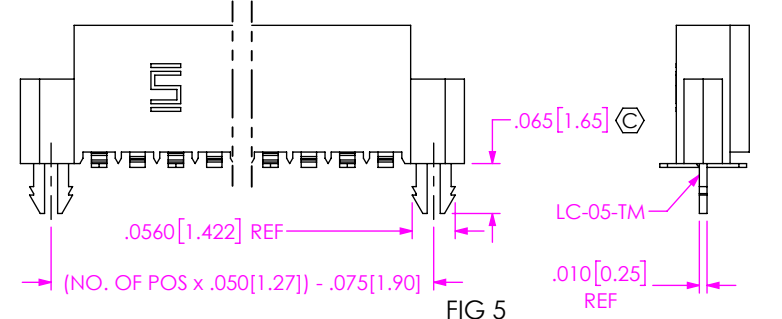

FIG 5
-LC: LOCKING CLIP (SEE FIG 5) (SEE NOTE 5) (USE (2) LC-05-TM & SFM-XX-S-LC-X)